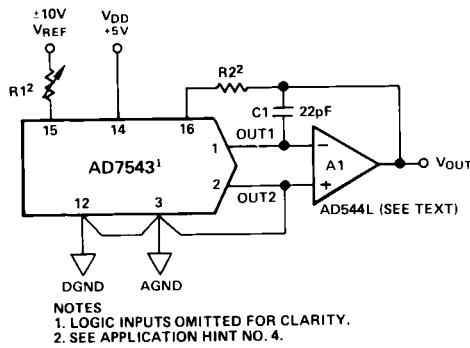
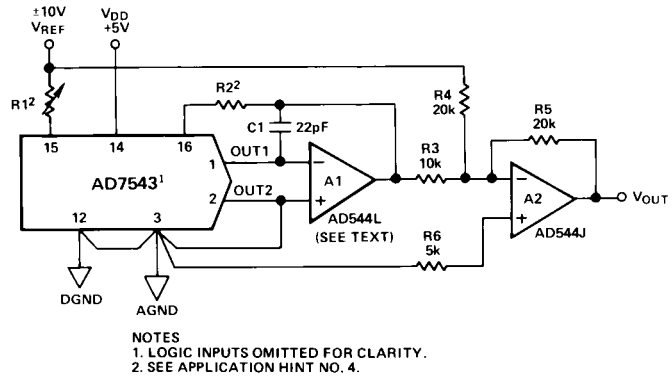

Figure 6. Unipolar Binary Operation (2-Quadrant Multiplication)
Figure 7. Bipolar Operation (4-Quadrant Multiplication)
Gain is defined as the ratio of the DAC's Full Scale output to its reference input voltage. An *ideal* AD7543 would exhibit a gain of $-4095/4096$. Gain error is adjustable using external trims as shown in Figures 6 and 7.
Register B can be asynchronously reset to 0000 0000 0000 by bringing CLR momentarily LOW. This allows the DAC output voltage to be set to a known condition, thus simplifying system initialization procedure. When operating the AD7543 in the unipolar circuit of Figure 6, a CLEAR causes the DAC output voltage to equal 0V. When using the bipolar circuit of Figure 7, a CLEAR causes the DAC output to equal $-V_{REF}$.
Figure 6 shows the analog circuit connections required for unipolar binary (2-quadrant multiplication) operation. The logic inputs are omitted for clarity. With a dc reference voltage or current (positive or negative polarity) applied at pin 15, the circuit is a unipolar D/A converter. With an ac reference voltage or current (again of + or - polarity) the circuit provides 2-quadrant multiplication (digitally controlled attenuation). The input/output relationship is shown in Table III.
Table III. Unipolar Binary Code Table for Circuit of Figure 6
Figure 7 and Table IV illustrate the circuitry and code relationship for bipolar operation. With a dc reference (positive or negative polarity) the circuit provides offset binary operation. With an ac reference, the eleven LSBs provide digitally controlled attenuation of the ac reference while the MSB provides polarity control.
Table IV. Bipolar Code Table for Offset Binary Circuit of Figure 7
4. **GAIN TEMPERATURE COEFFICIENTS:** The gain temperature coefficient of the AD7543 has a maximum value of $5\text{ppm}/^\circ\text{C}$ and a typical value of $2\text{ppm}/^\circ\text{C}$. This corresponds to gain shifts of 2.0LSBs and 0.82LSBs respectively over a 100°C temperature range. When trim resistors are used to adjust full-scale range as shown in Figures 6 and 7 the temperature coefficient of R1 and R2 should be taken into account. It may be shown that the additional gain temperature coefficients introduced by R1 and R2 may be approximately expressed as follows:—